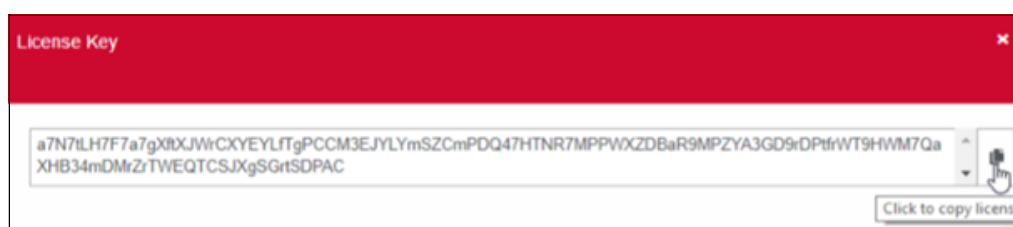

Figure 11-45 Copying license key
9. Copy the license key to a .txt file and save it (see Figure 11-45). You use this license key when you add the license to SANnav.